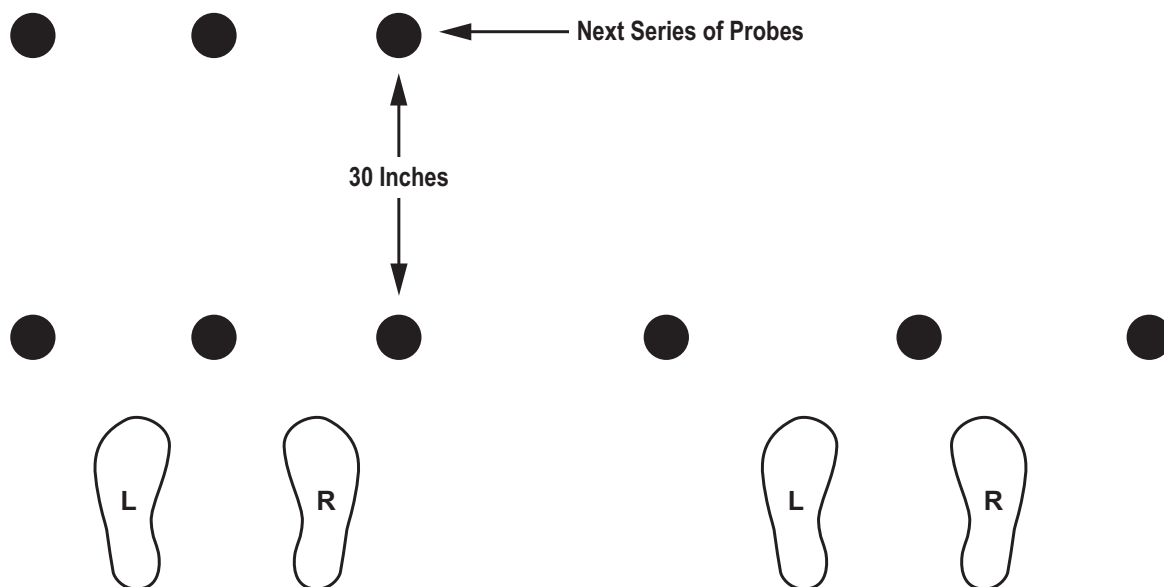

Figure 6-19. Coarse Probe.
- At the command STEP, each person takes a 30-inch step and the process repeats (see fig. 6-19).